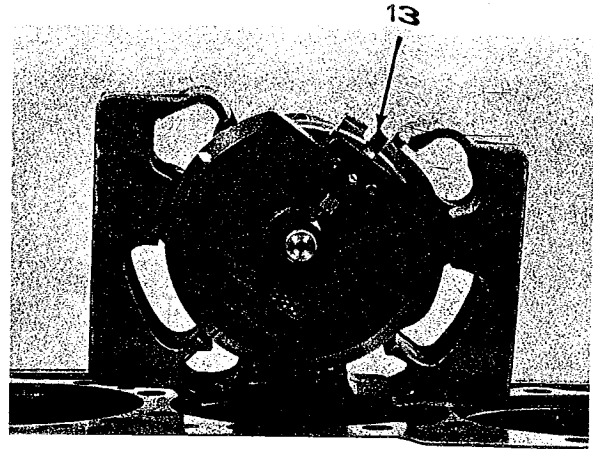

Fig. 4 Attaching the Cutter Plate
2. Assemble cutter plate (10 or 31) on shaft of the main housing (1) and secure with nut (26) and washer (27). See Fig. 4.